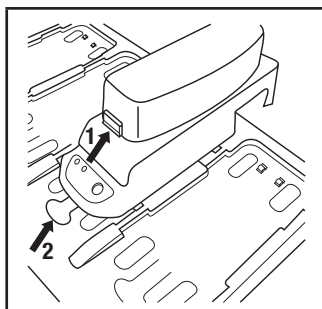

Fig. 3 - Cradle removal
- Removal: Release battery pack from cradle – press blue release tab on battery and lift out (Fig. 3, #1).
- The TR-640 can remain attached to the TR-944N if desired. To release the cradle from base, press down on the oval release tab on the base, slide cradle forward and lift out (Fig. 3, #2). Be careful not to pinch fingers as the cradle slides forward.